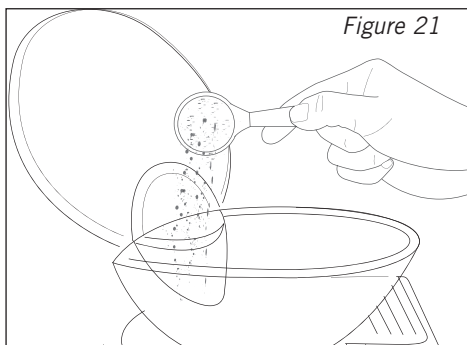

Figure 21
- Open the lid of the pre-ground coffee receptacle and fill with fresh pre-ground coffee. See Figure 21.